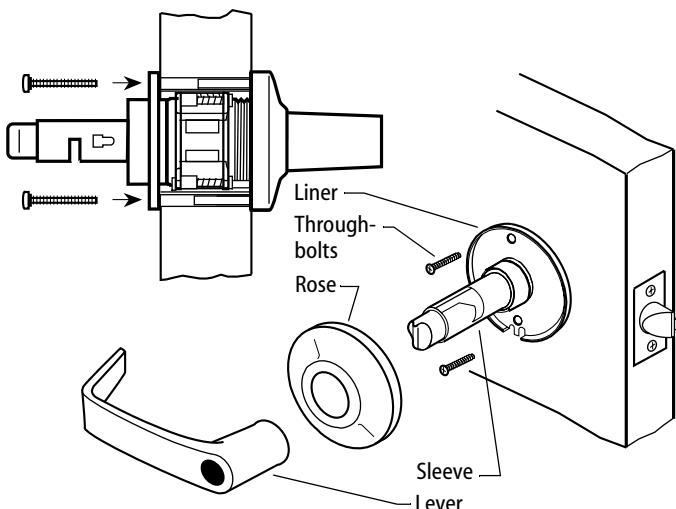

Figure 6 — Installing the inside liner, rose, and lever
- 2 Install through-bolts through the liner and the door in the top and bottom holes. See Figure 6.